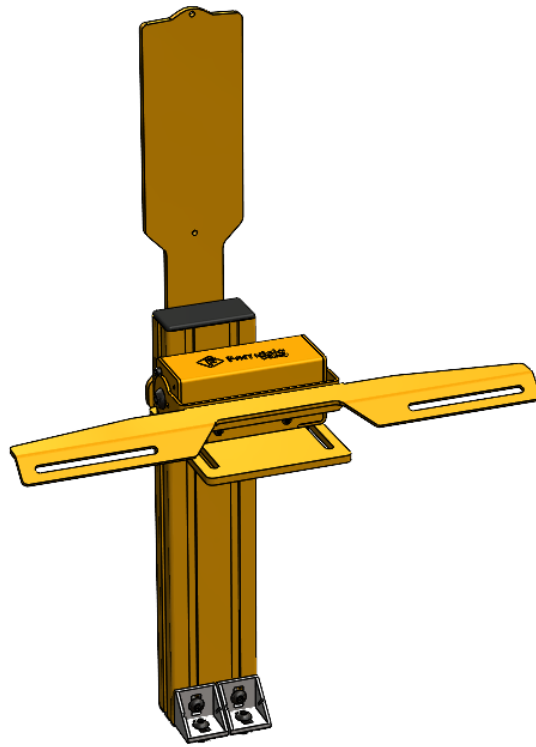

Fig. 2
3. Install the Screen mounting bracket on the hinge. (Fig 2.)